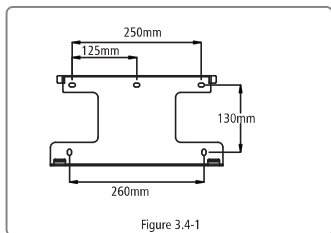

Figure 3.4-1
- Use the wall-mounted bracket as a template and drill 5 holes in the wall, 10 mm in diameter and 80 mm deep. Referred to Figure 3.4-1